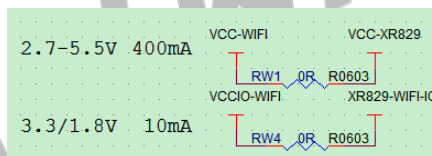

Figure 2-37 The Operating Voltage and Circuit of WiFi
- Mark the operating voltage and the maximum operating current of the WiFi power supply in the schematic diagram to facilitate PCB layout design. As shown in Figure 2-37.